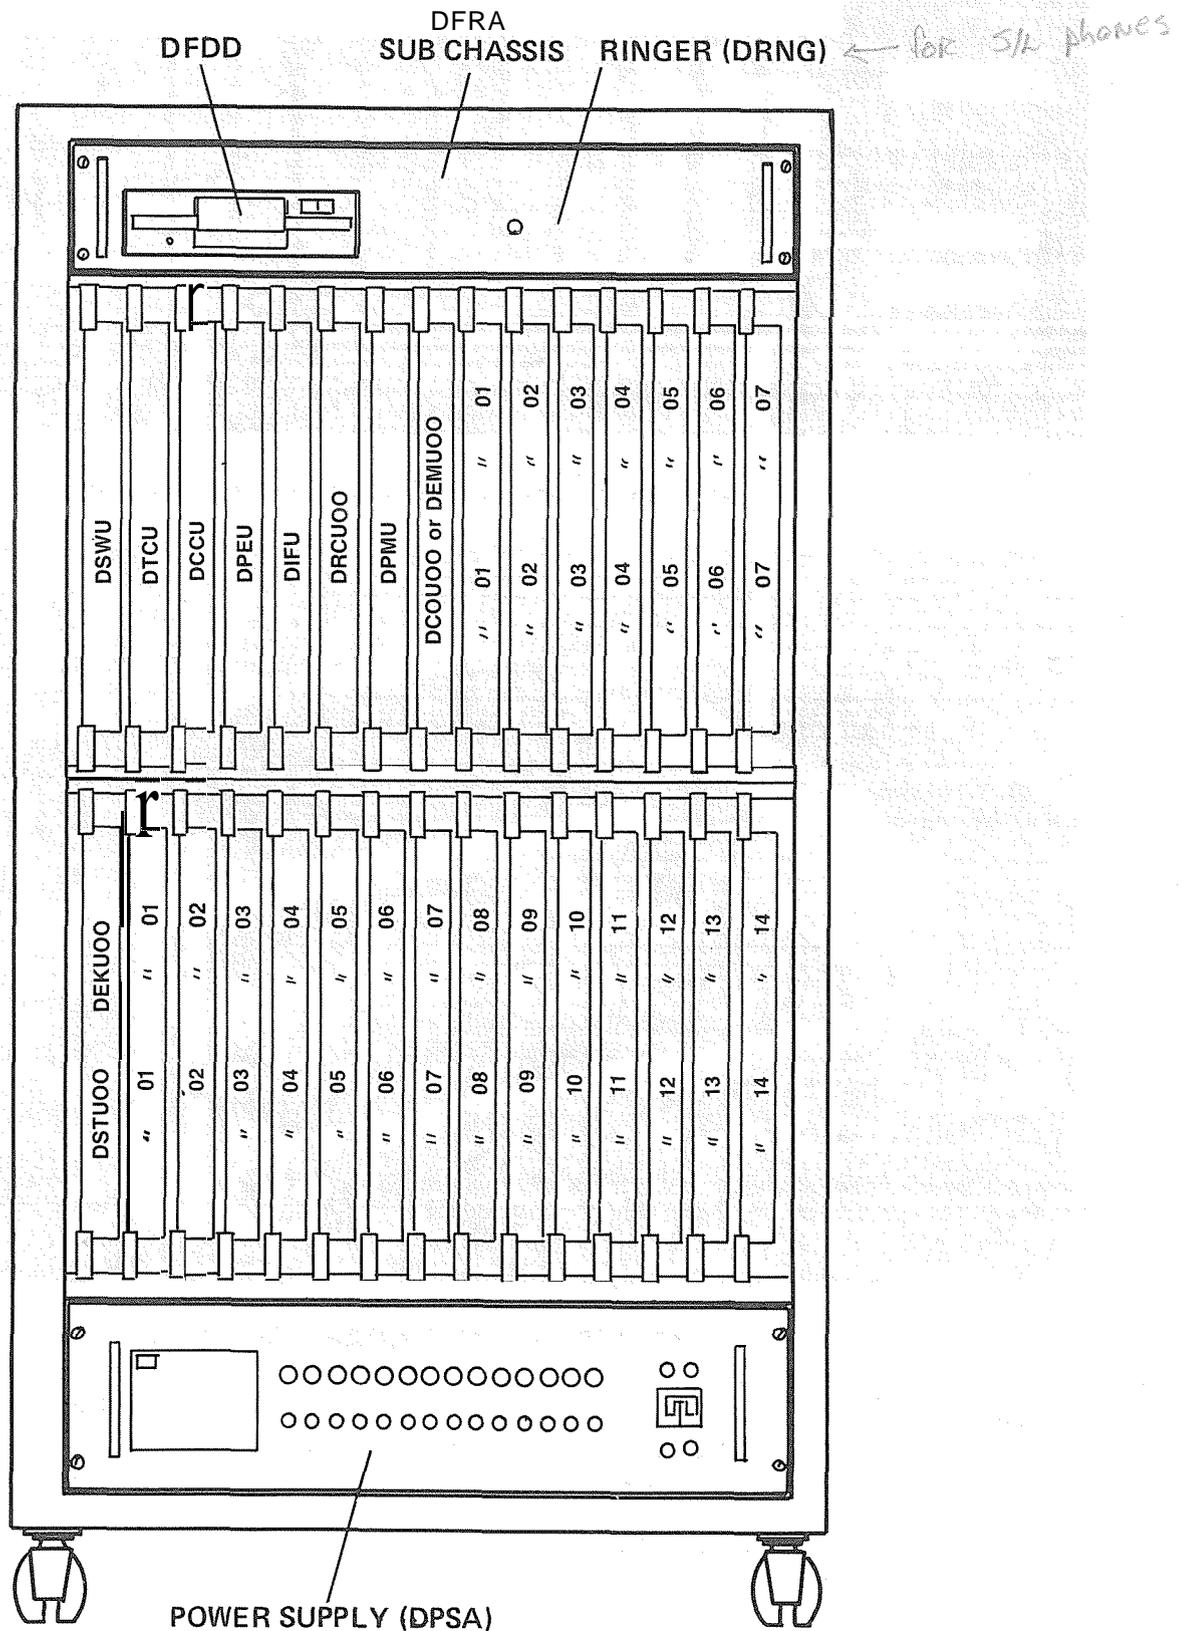

FIGURE 2 - CABINET (Interior)
01.12 The central equipment cabinet is divided into four shelves (Figure 2); two shelves for plug-in printed circuit board (PCB) mounting, one shelf for the power supply, and the top shelf contains the Floppy Disk/Ringer Assembly (DFRA).